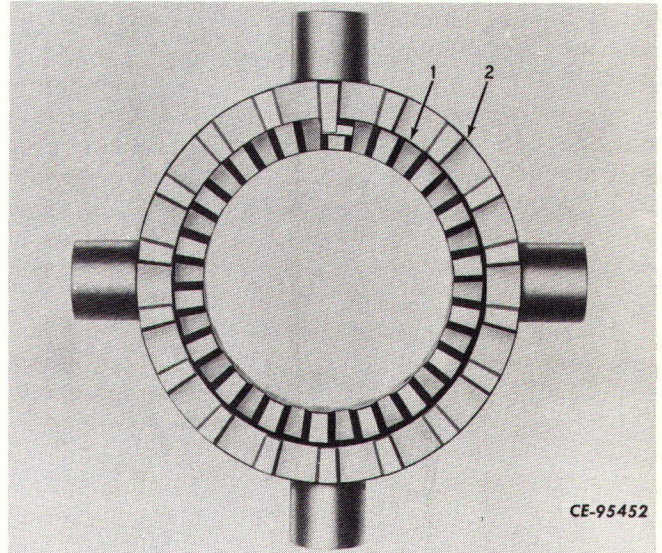

Figure 6-64
Remove unit from press. Remove splined side members, spring retainers and driven clutch members. Center cam and spider is serviced as an assembly and should not be disassembled. If center cam teeth (1, Fig. 6-64) or spider teeth (2) are chipped or excessively worn, replace the assembly.